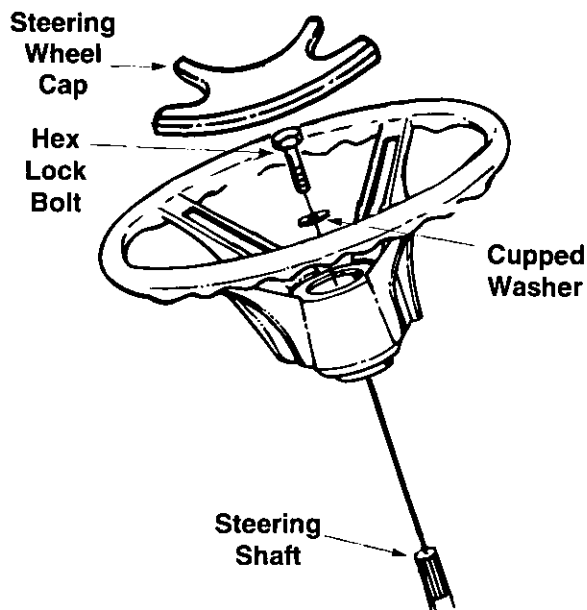

Figure 4
2. **With the wheels of the tractor pointing straight forward**, place the steering wheel over the steering shaft, positioning steering wheel as desired. See Figure 4.